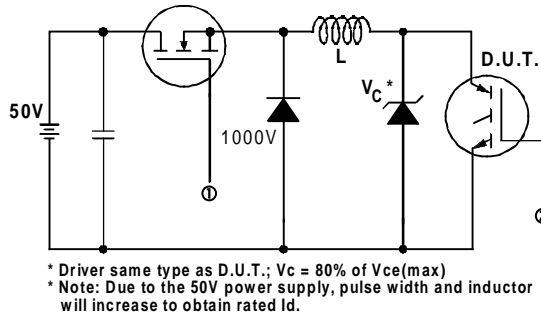

Fig. 13a - Clamped Inductive Load Test Circuit
- ② $V_{CC} = 80\%(V_{CES}), V_{GE} = 20V, L = 10\mu H, R_G = 5.0\Omega$, (See fig. 13a)
- ③ Repetitive rating; pulse width limited by maximum junction temperature.
- ④ Pulse width $\leq 80\mu s$; duty factor $\leq 0.1\%$.
- ⑤ Pulse width $5.0\mu s$, single shot.